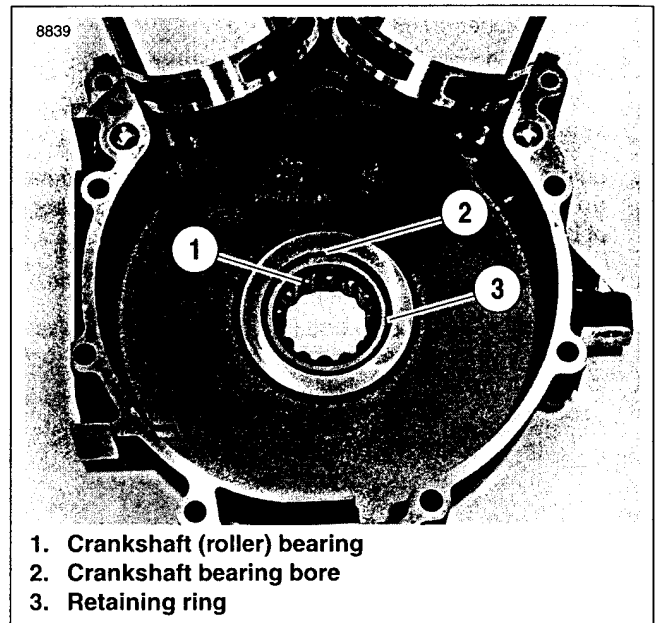
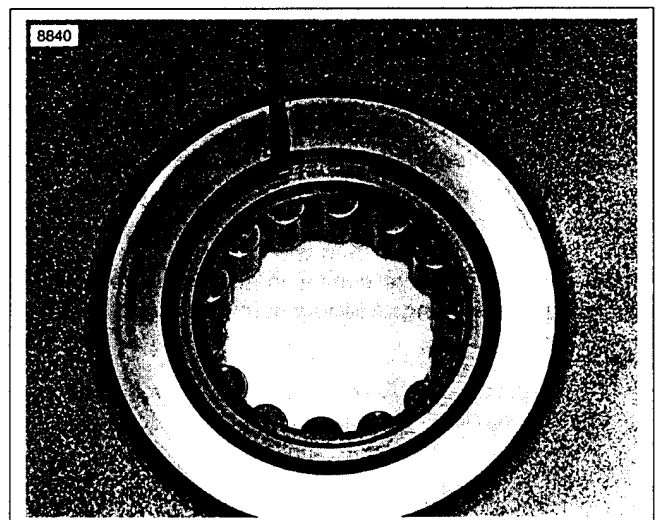

Figure 3-158. Left Crankshaft (Roller) Bearing Assembly
Figure 3-159. Removing Retaining Ring
7. See Figure 3-158. The left crankshaft (roller) bearing (1) is press-fit into the crankshaft bearing bore (2) in the left crankcase and secured with a retaining ring (3) on the inboard side. See Figure 3-159. Using the tip of a flat-blade screwdriver, carefully lift the edge of the retaining ring up out of its groove in the crankcase. Slide the screwdriver tip around the edge of the bearing, lifting the retaining ring up and out of the groove. Be careful not to damage the lip of the groove in the crankcase.